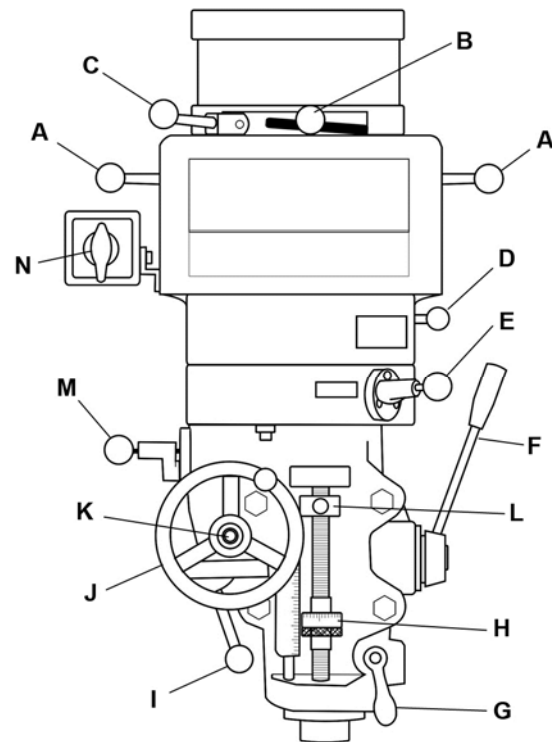

Figure 5: controls
Refer to Figure 5:
- A. **Motor Lock (Belt Tension) Levers (A, Figure 5)** – Slide levers to loosen motor mounting; shift motor to release tension on belts and reposition belts for different speed range.